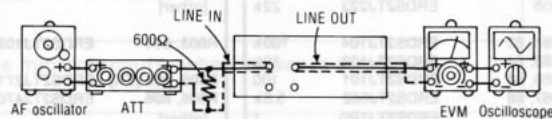

Fig. 6
1. Test equipment connection is shown in Fig. 6.
5. If it is not within the standard, adjust VR7 (L-CH) {VR8 (R-CH)} and repeat the step (2), (3) and (4) until the output is within the standard.